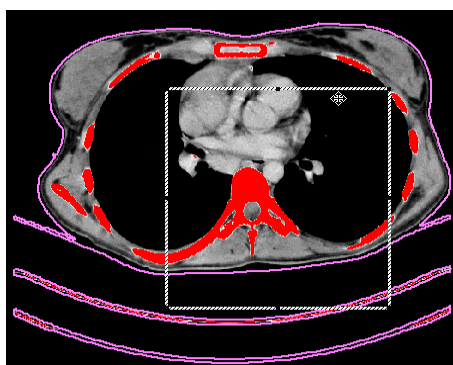

Figure 255 – Moving the rectangle constraint
- Move the rectangle or drag the sides to change its size until the desired area is demarcated (see Figure 255).